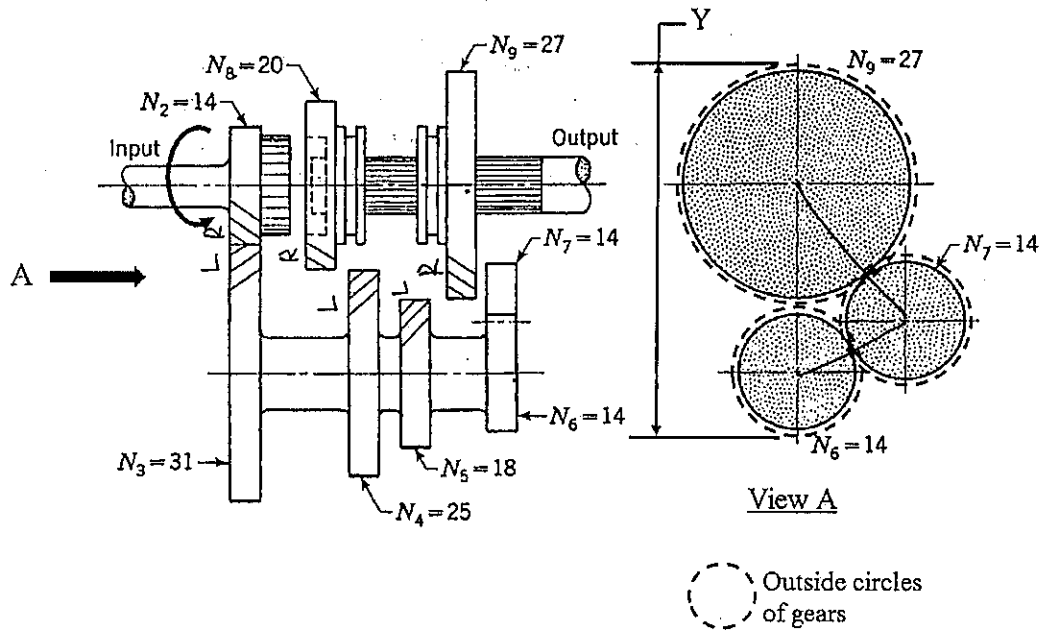

Figure 4
4. The conventional automotive transmission consisting of helical gears in Figure 4 has three forward speeds and one reverse speed. The synchromesh clutches have been omitted in the interest of simplification. Gear 2 is connected to the engine through the clutch. Gears 3, 4, 5, and 6 are located on the countershaft, with gear 3 being in mesh with gear 2 at all times. Gear 7 is the idler gear and is in mesh with gear 6 at all times. Gears 8 and 9 are splined to the output shaft and are shifted axially into engagement by forks to engage the respective gear as follows:
- (d) Determine the dimension Y in view A of Figure 4. (8 marks)
Note: Figure 4 appears on page 5.